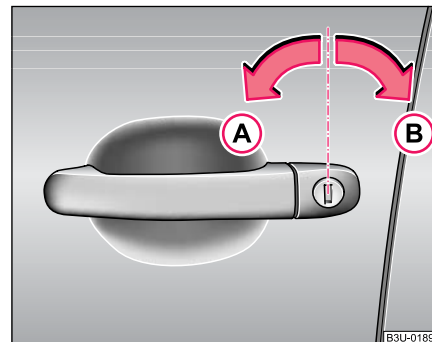

Fig. 22 Turning the key for unlocking and locking the vehicle
- Turn the key in the lock of the driver's door to the left into the opening position **(A)** ⇒ fig. 22.
- Turn the key in the lock of the driver door to the right into the closing position (B) ⇒ page 41, fig. 22.